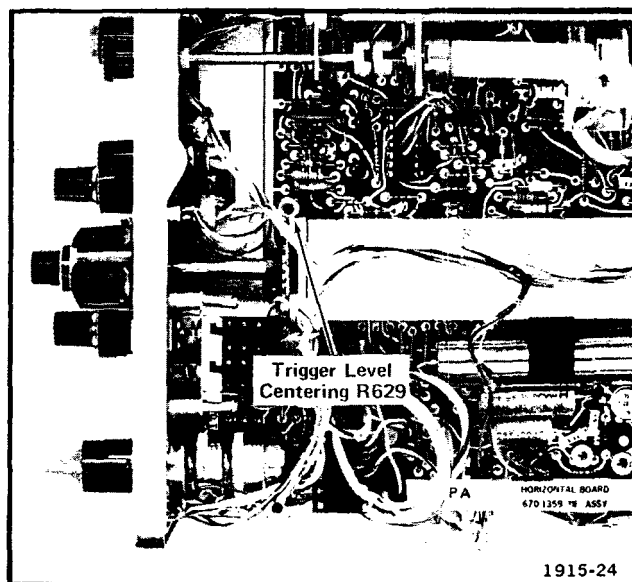

Fig. 5-7. Location of Trigger Level Centering adjustment.
e. ADJUST—Trigger Level Centering adjustment R629 (see Fig. 5-7) for a stable display in the + position of the TRIGGER SLOPE switch with the TRIGGER LEVEL control centered.